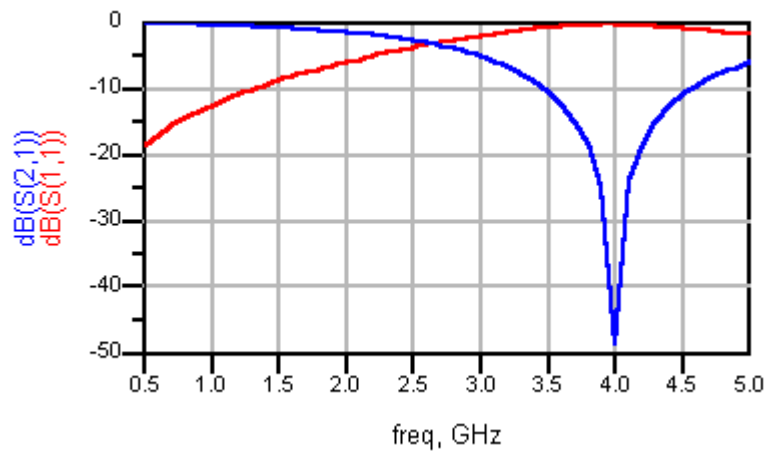

Figure 5. Simulated S-parameters of the "tuned" circuit.
- 9) The response of the “tuned” circuit should resemble the results shown in Figure 5.